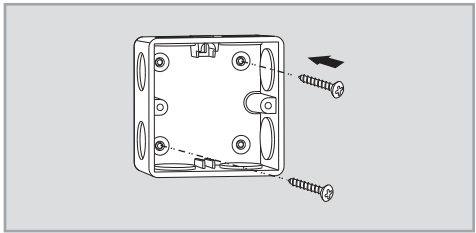

FIG.9
3.3.2 Fix the Asian standard junction box on the wall with two M4 x 25mm wood screws. Refer to FIG.9 for position of screw holes.